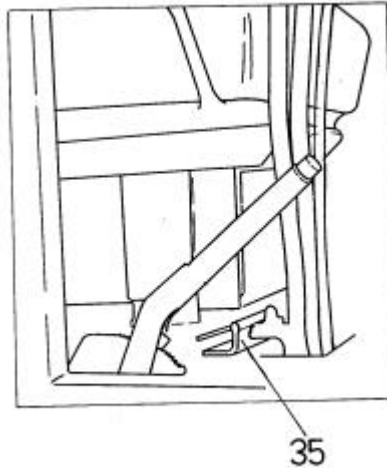

Fig. 4.7 Control Lever Locking Plate (Standard Version)
- 35 - Control Levers Lock Plate (Fig. 4.7)
35. CONTROL LEVER LOCKING PLATE (Fig. 4.7)